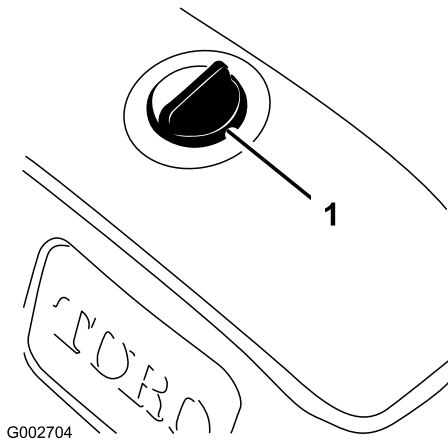

Figure 16
1. Clean the area around the hydraulic oil reservoir cap to prevent debris from entering tank (Figure 16).